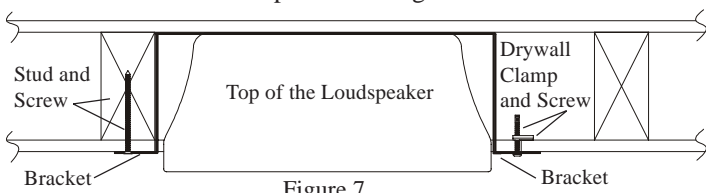

Figure 7
4. For the XLS320 and XLS340, cut an opening in the existing finished wall using the dimensions in the figure 6 Chart. The In Wall Mounting Bracket(s) can be oriented for anchoring the Bracket to the wall stud either on the left or right hand side of the Loudspeaker. Refer to the Top Inside Views in figures 7 and 8.